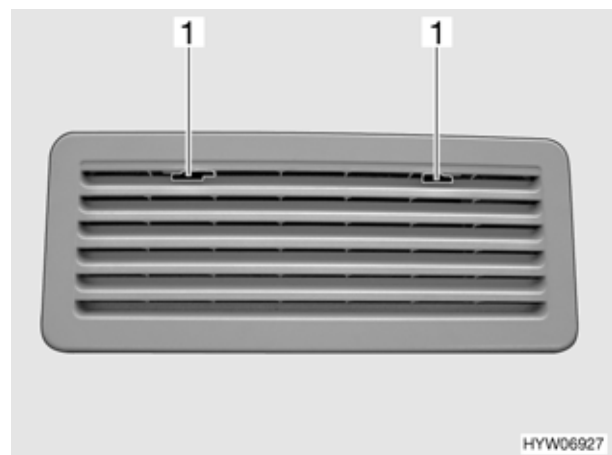

Fig. 129 Refrigerator ventilation grill (variant 2)
- Move the locking device (Fig. 129,1) to the middle.